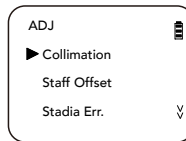
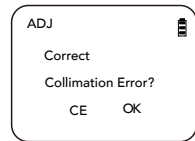

fig. 18
fig. 19
- First set the instrument at point 1. Press and hold Meas. Button and press the Power button to enter adjustment mode (fig. 18). Press MEAS. button then SET button to enter Collimation mode as shown in fig. 19 (MODE = CE SET = OK)